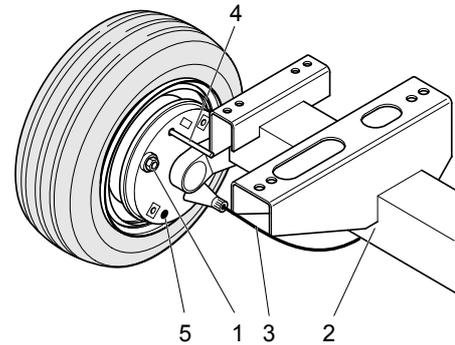

Fig. 5.5 Brake shoe adjustment
Lift and support the compressor. Make sure that all brakes are off ( hand brake lever). The brake cables must be free from tension. Lock the swivel cams of the wheel brake from the outside by means of a pin (4) through the hole as shown in Fig. 5.5.
Remove locking pin (Fig. 5.5, 4). Remove clearance from brake cables.